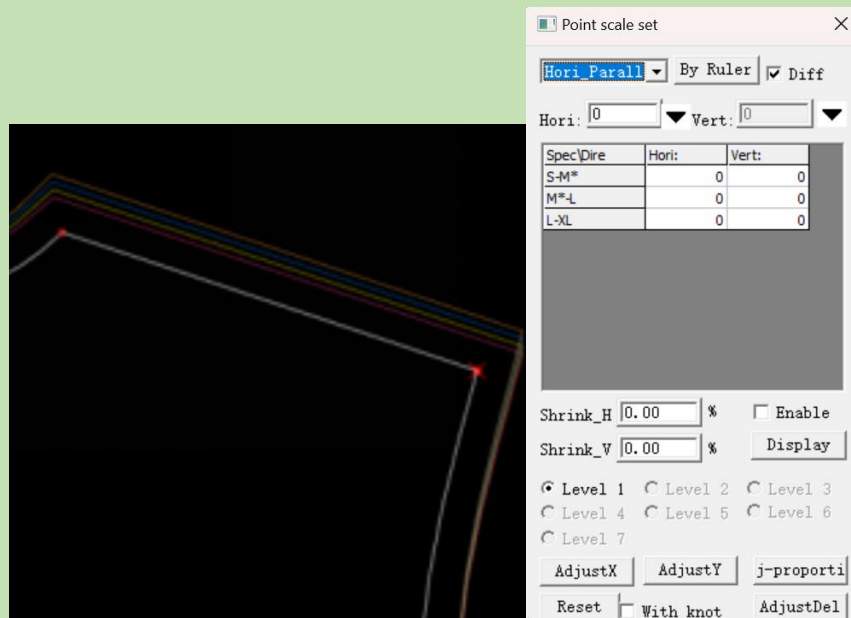

Figure5-37
2. Click on the line that needs to be parallel as shown in Figure 5-37.